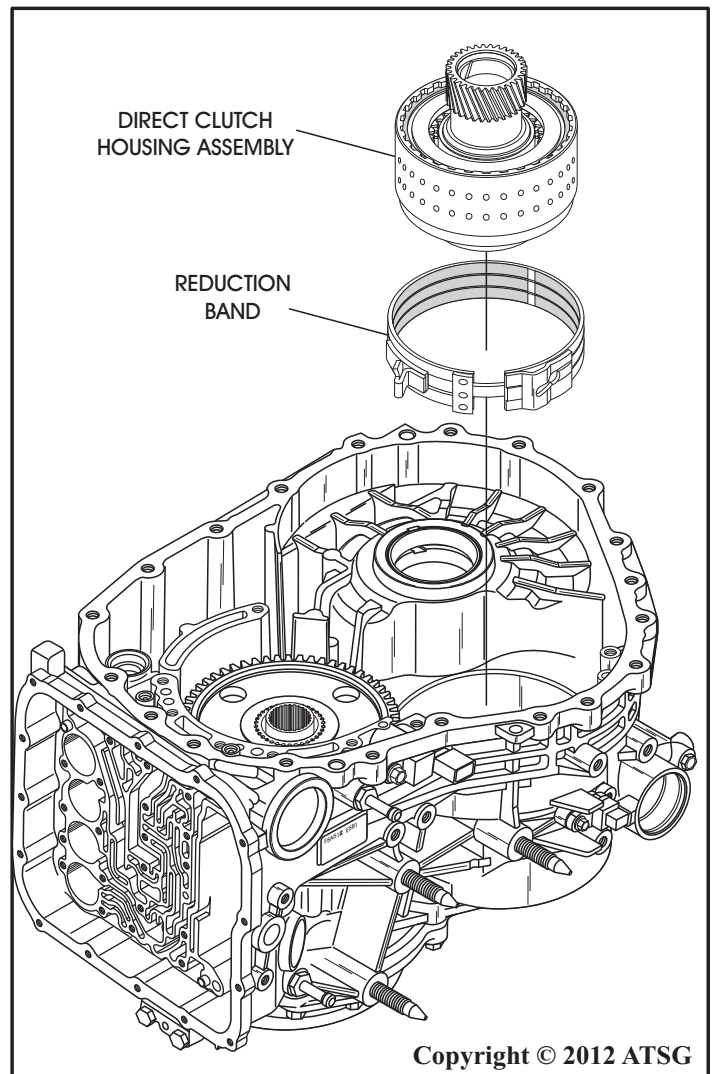

Figure 75
44. Remove the direct clutch housing from case, as shown in Figure 75, and set aside for component rebuild section.
45. Remove the reduction band from the case, as shown in Figure 75.